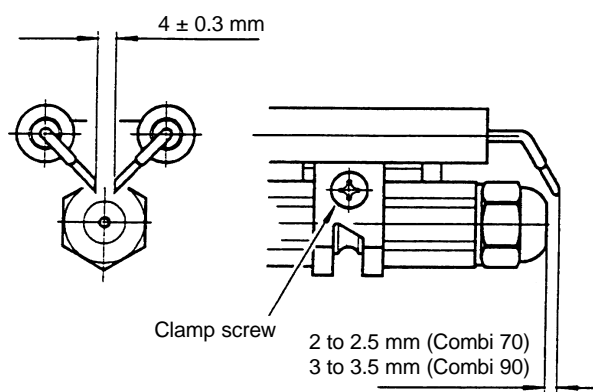

Fig. 35 (Combi 90 shown)
- 2 Remove the baffles, noting their position (see Fig. 35).
Check the electrode settings - Electrode tips approximately 4 mm apart and 2 to 2.5 mm (Combi 70) or 3 to 3.5 mm (Combi 90) in front of the nozzle, see Fig 35.
electrodes away from the nozzle. Remove the nozzle using a good fitting spanner (16 mm). The use of an ill-fitting spanner will damage the nozzle and could lead to an incorrect flame pattern. Always check the electrode settings after replacing the nozzle, see Fig. 35.